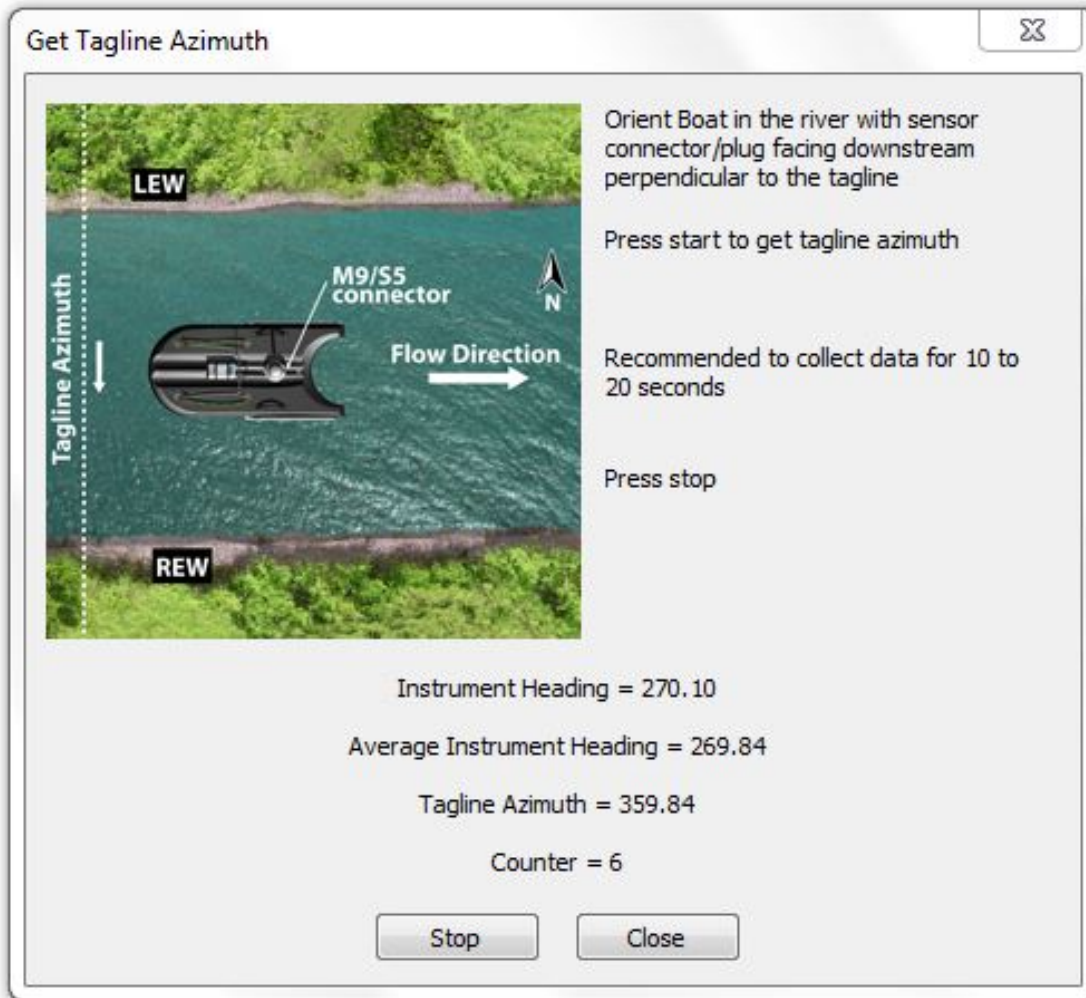

Figure 156. Get Tagline Azimuth Stop
2. Once the M9/S5 has been correctly aligned with the river and is relatively steady press **Start** to collect data. During this time the compass will display instrument heading at 1-second intervals, average instrument heading, computed tagline azimuth, and the number of samples (in seconds) as shown in Figure 156. After 10-20 seconds of data collection press **Stop** and close the dialog. The tagline azimuth field in the system settings dialog box will automatically be updated with the tagline azimuth measured using *Get Tagline Azimuth*.